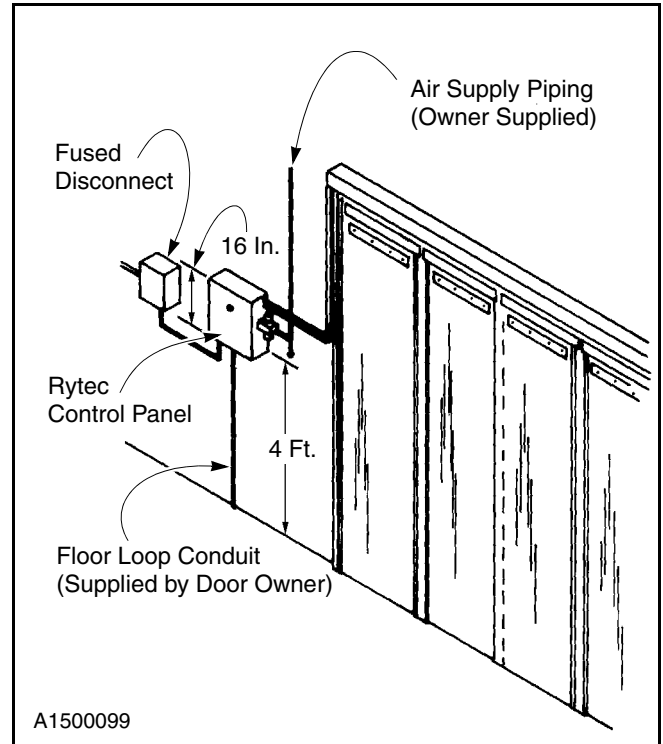

Figure 36
1. Locate the Rytec control panel and fused disconnect as shown in Figure 36.